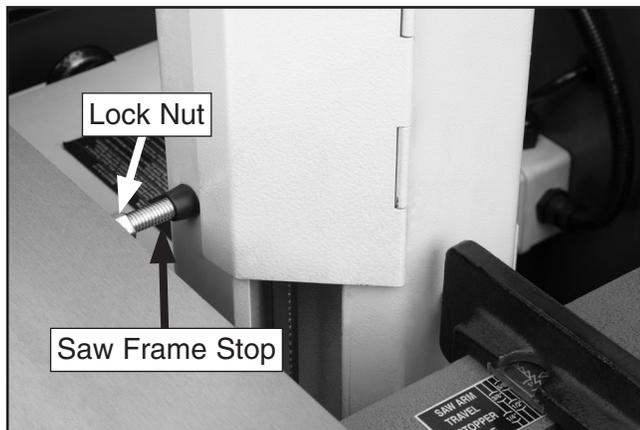

Figure 25. Saw frame stop.
3. Remove the stop clamp, turn both hydraulic knobs on the control panel counterclockwise to release the saw frame, then lift the saw release lever to bring the saw frame all the way forward. The saw frame will come to rest on the saw frame stop (**Figure 25**).